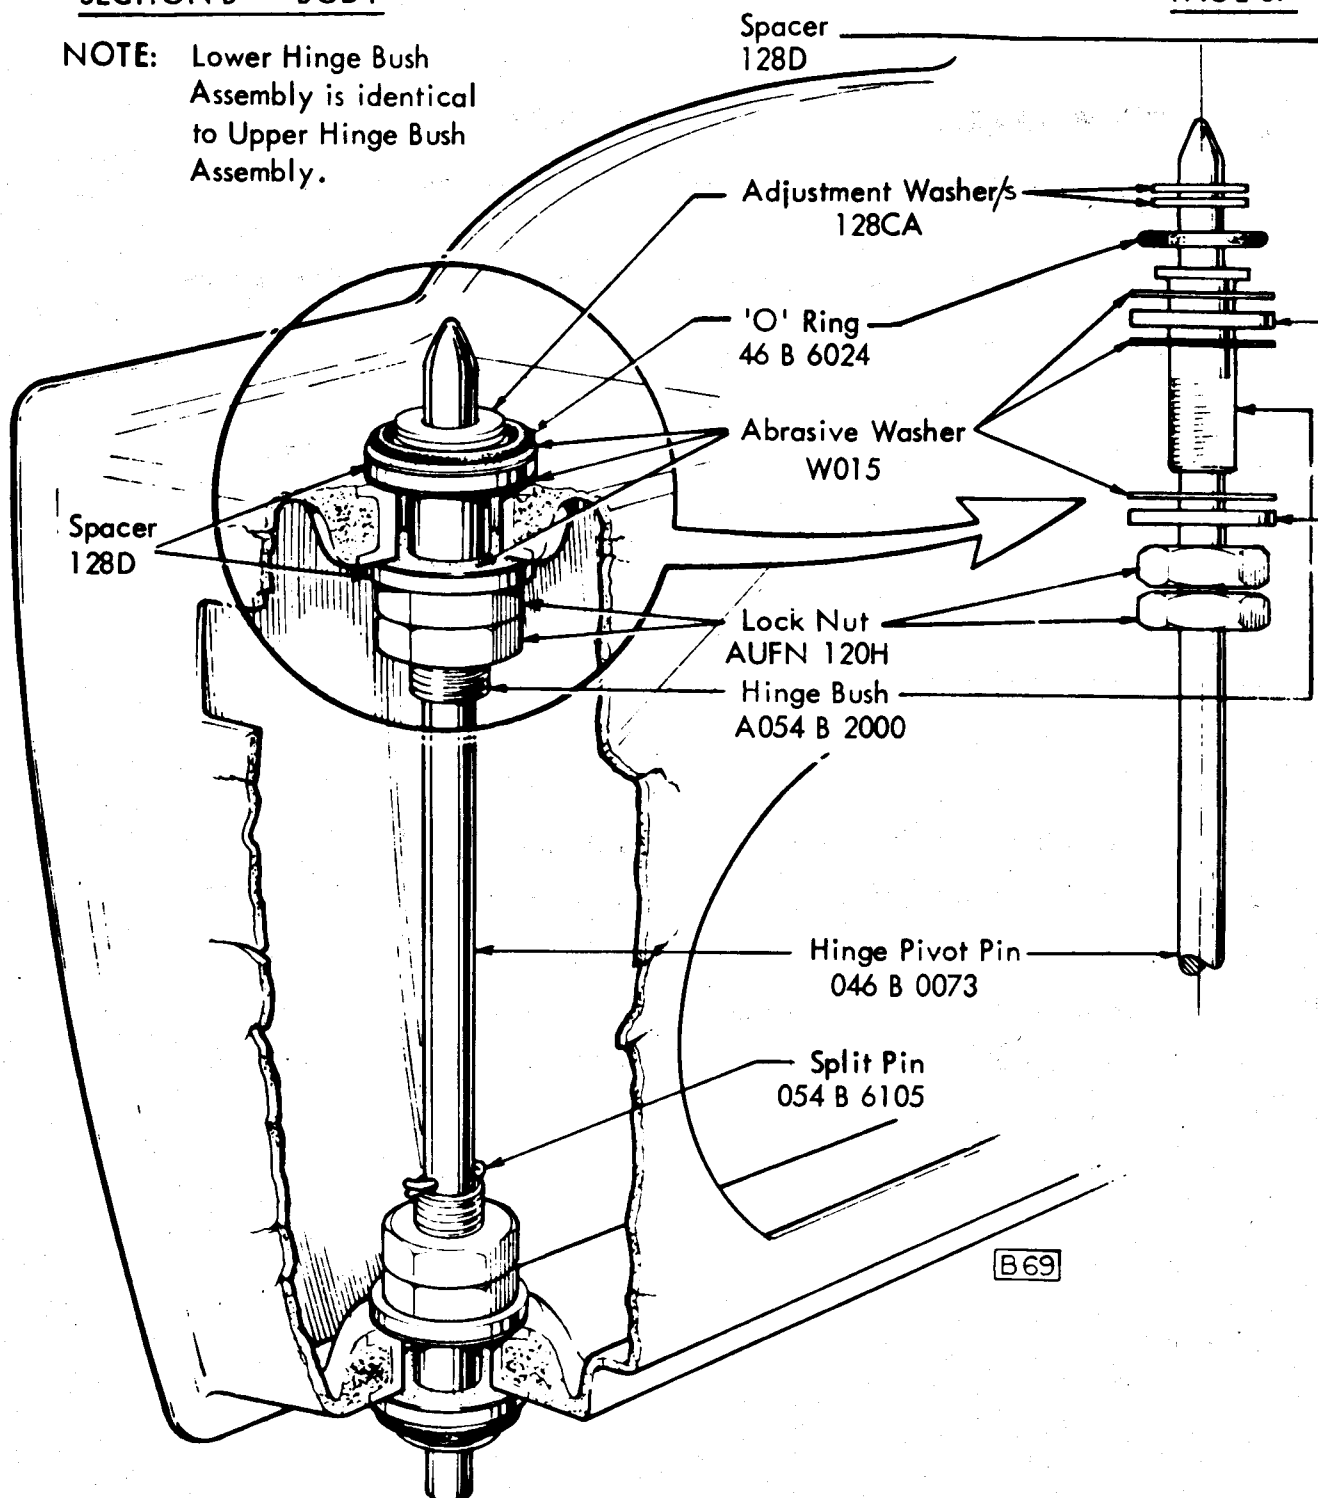

Fig. 23 Door Hinge Assembly
1. Assemble the hinge bushes into the door as shown in Fig. 23. The nuts should be tight enough to allow the bushes to be moved.